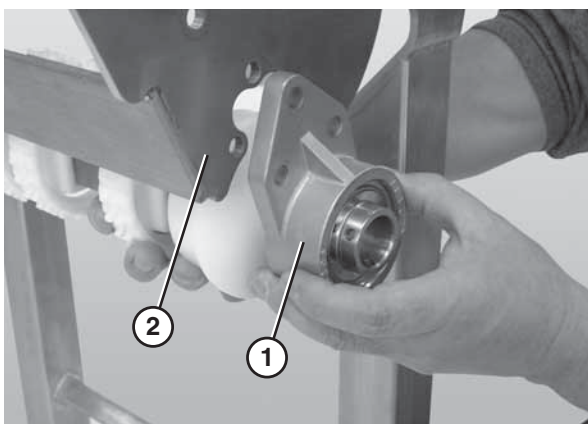

Figure 72
7. Disconnect the 3 hole flange bearing (**Figure 72, item 1**) from the nose bar drive weldment (**Figure 72, item 2**).